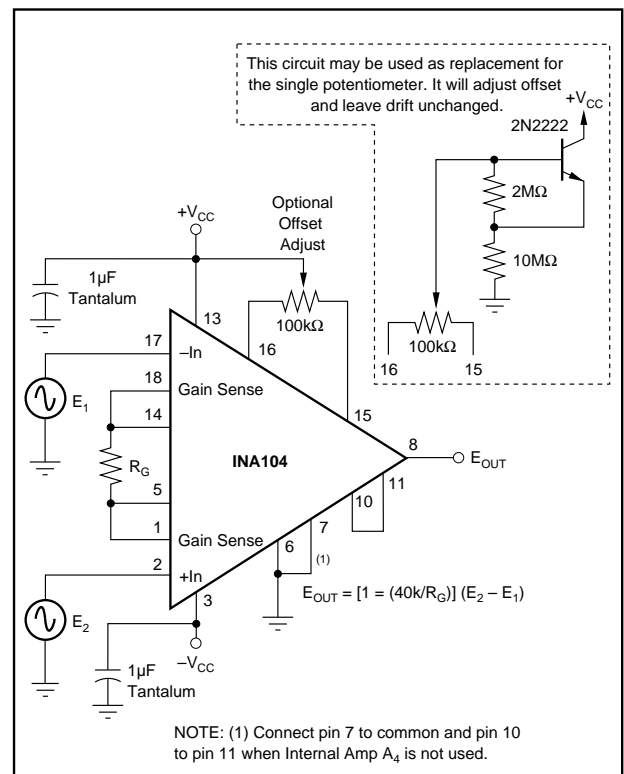
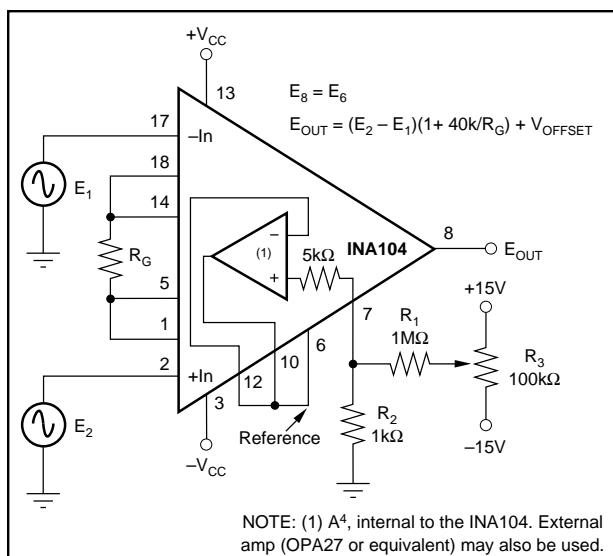
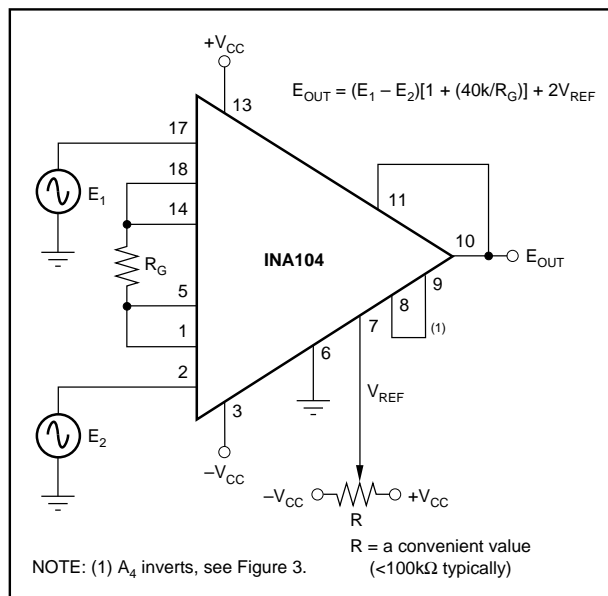

FIGURE 1. Basic Connection for the INA104 Including Optional Input Offset Null Potentiometer.
FIGURE 2. Optional Output Offset Nulling or Offsetting Using an Amplifier (Low Impedance to Pin 6).
FIGURE 4. Output Offsetting.
At T_A = +25°C, V_S = ±15V power supply and in circuit of Figure 1 unless otherwise noted.
At $T_A = +25^\circ\text{C}$, $V_{CC} = 15\text{V}$, and in circuit of Figure 1, unless otherwise specified.
Figure 1 shows the simplest configuration of the INA104. The gain is set by the external resistor, R_G , with a gain equation of $G = 1 + (40k/R_G)$. The accuracy and TCR of R_G contribute directly to the gain accuracy and drift.
Pins 1, 5, 14, and 18 are accessible so that a four-terminal connection can be made to R_G . (Pins 1 and 18 are the voltage sense terminals, since no signal current flows into the operational amplifiers' inputs.) This is useful at high gains, where the value of R_G is small. The optional offset adjust capability is shown in Figure 1. The adjustment affects only the input stage component of the offset voltage. Thus, the null condition will be disturbed (if input offset is not adjusted to zero) when the gain is changed. Also, the input drift will be affected by approximately $0.31\mu V/^\circ C$ per $100\mu V$ of input offset voltage that is trimmed. Therefore, care should be taken when considering use of the control for removal of other sources of offset.
It is frequently desirable to null the input component of offset (Figure 1) and occasionally that of the output (Figure 2). The quality of the potentiometer will affect the results, therefore, choose one with good temperature and mechanical-resistance stability. The procedure is as follows:
3. Adjust the 100k Ω potentiometer in Figure 1 until the output reads $0V \pm 1mV$ or desired setting. Note that the offset will change when the gain is changed.
4. If the output component of offset is to be removed or if it is desired to establish an intentional offset, adjust the 100k Ω potentiometer in Figure 2 until the output reads $0V \pm 1mV$ or desired setting. Note that the offset will not change with gain, but be sure to use a stable amplifier with good DC characteristics. The range of adjustment is $\pm 15mV$ as shown. For larger ranges, change the ratio of R_1 to R_2 . The op amp is used to maintain a low resistance ($<0.1\Omega$) from pin 6 to Common to avoid CMR degradation.
The basic circuit connection for the INA104 is shown in Figure 1. The output voltage is a function of the differential input voltage times the gain. Figure 1 does not include additional internal op amp A₄. Power supply bypassing with a 1 μF tantalum capacitor or equivalent is always recommended.
Output offsetting (“zero suppression” or “zero elevation”) may be more easily accomplished with the INA104 than with most other IC instrumentation amplifiers as shown in Figure 4. The use of the extra internal op amp, A₄, means that CMR of the instrumentation amp is not disturbed, and that a convenient value of variable resistor can be used. The circuit shown in Figure 2 can also be used to achieve the desired offsetting by scaling the resistors R_1 and R_2 . A low impedance path from pin 6 to Common should be provided to achieve the high CMR specified. Resistance above 0.1Ω will cause the CMR to fall below 106dB.